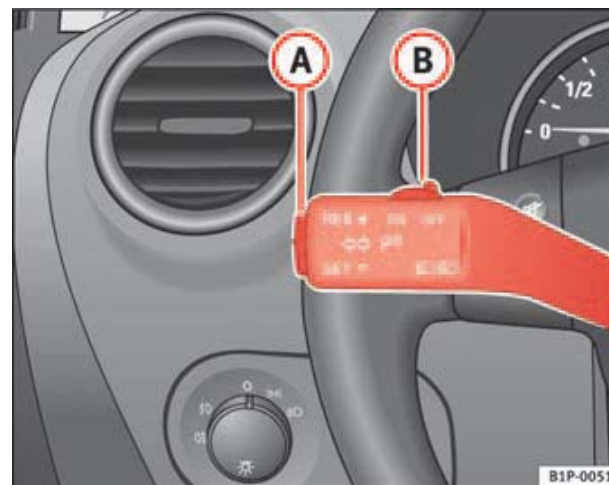

Fig. 125 Turn signal and main beam lever: Switch and rocker switch for CCS
- Push the switch ⇒ fig. 125 **B** to the left to **ON**.